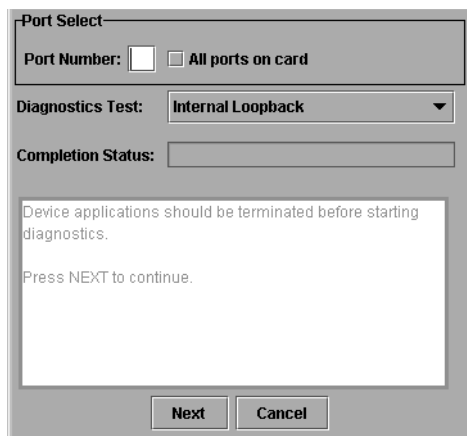

Figure 8: Port Diagnostics dialog box
8. Choose **Port Diagnostics** from the **Maintenance** menu. The **Port Diagnostics** dialog box displays, as shown in Figure 8.